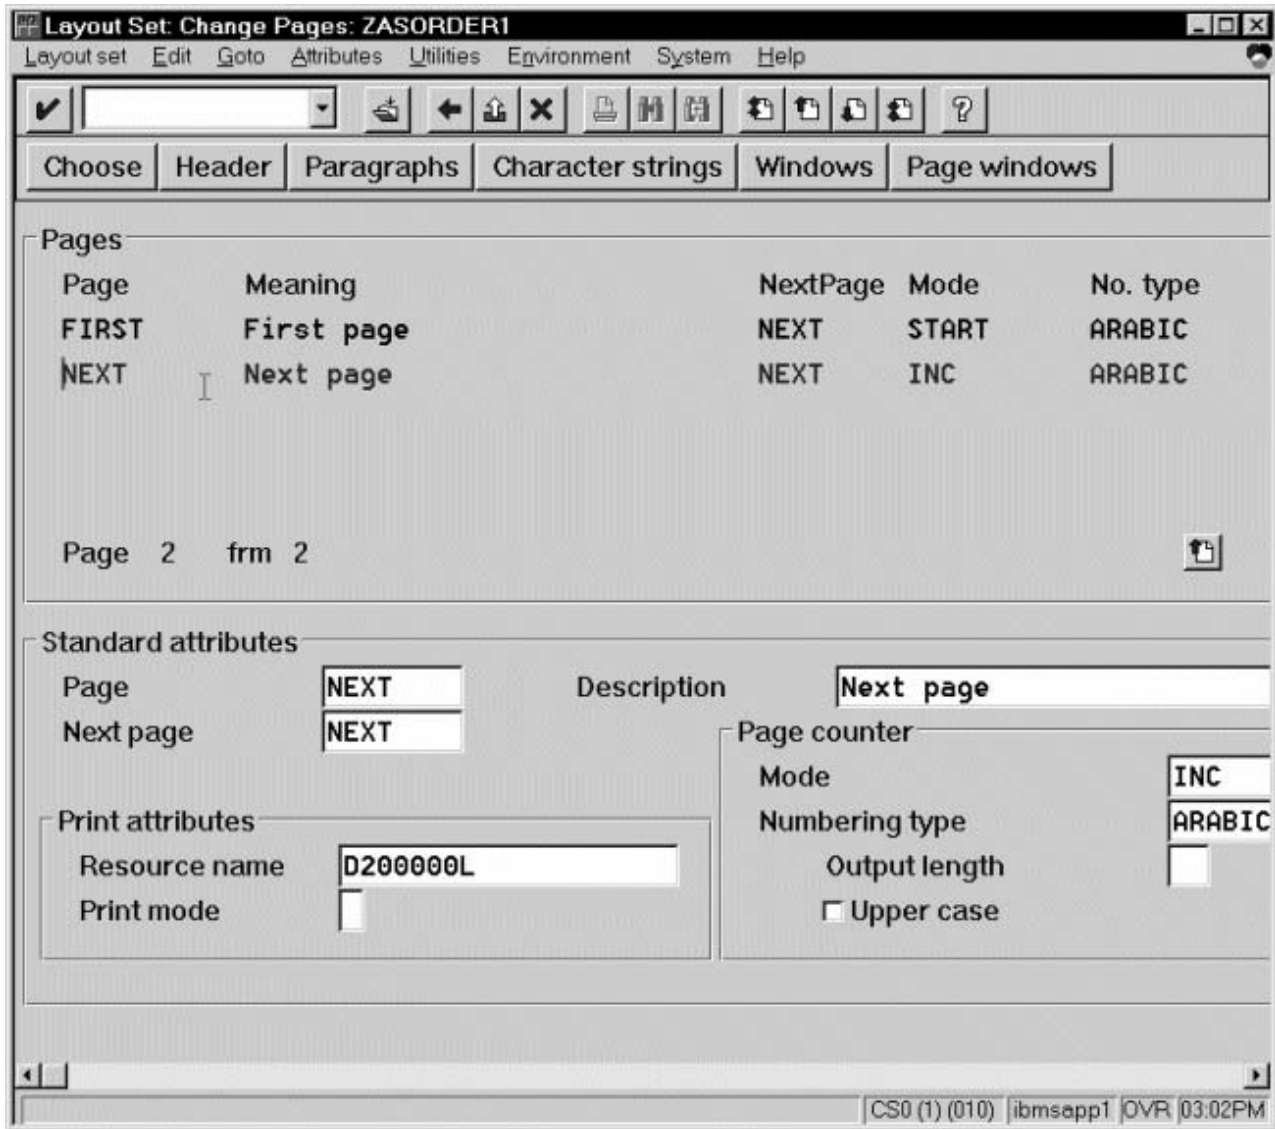

Figure 61. Layout Set Change Pages window, next page
4. Double-click on the next page that you intend to modify and fill in the **Resource Name** field on the second page as shown in Figure 61 on page 142: